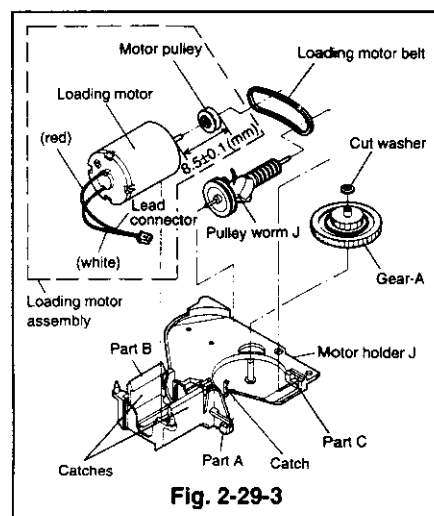
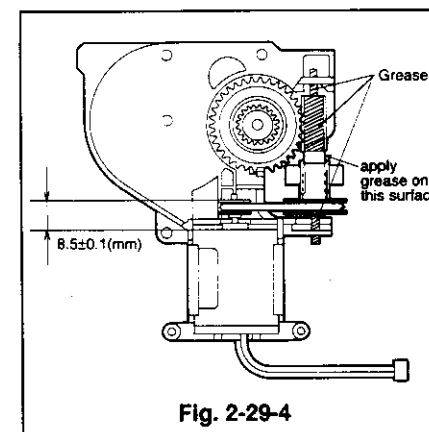

Fig. 2-29-3
Fig. 2-29-4
- ③ Remove the loading motor belt from the motor pulley. (Refer to Fig. 2-29-3.)
- ④ Unfasten the catches holding the motor holder to remove the loading motor assembly. (Refer to Fig. 2-29-3.)
- ⑤ Remove the pulley worm J, first the end attached to the part A shown in Fig. 2-29-3 and then the other end.
- ⑥ Remove the cut washer and unfasten the catch holding Gear A. Remove Gear A.
- ⑦ Pull the motor pulley to remove it from the loading motor.
- ⑧ Disconnect the wires from the loading motor.
- ① Solder the leads to the loading motor. (Red lead wire to the positive terminal and white lead wire to the negative terminal.)
- ② Install the motor pulley on the loading motor so that the space between the loading motor and the outer edge of the motor pulley is  $8.5 \pm 0.1$  mm. (Refer to Fig. 2-29-4)
- ③ Install the loading motor assembly so that the label on it faces part B, shown in Fig. 2-29-3.
- ④ Apply grease (G) [859D055O50] to the areas shown in Fig. 2-29-4 of the new pulley worm J. Install the pulley worm J, first the end attached to the part C shown in Fig. 2-29-3 and then the other end.
- ⑤ Fix the gear A to the shaft of the motor holder J and secure it with new cut washers.
- ⑥ Lift the end attached to the part A shown in Fig. 2-29-3 of the pulley worm J. Fasten the loading motor belt on the pulley worm J and the motor pulley, taking care not to twist the belt.